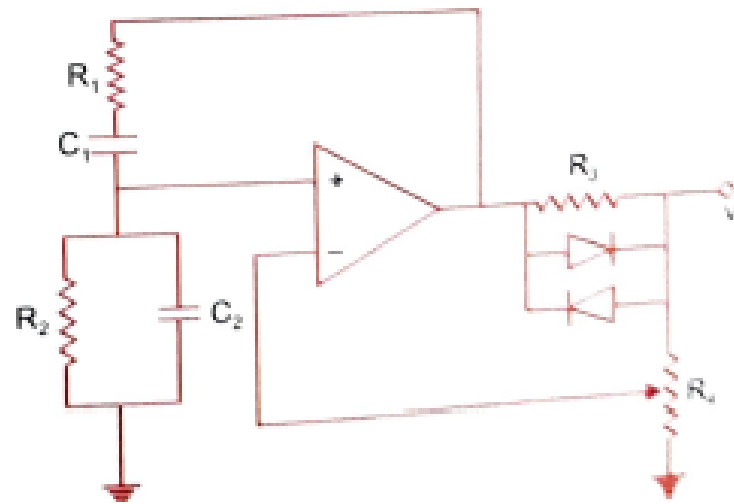

Fig 3 Practical Wien bridge oscillator with adaptive negative feedback
•If the gain  $|A| > 3$ , sometimes oscillations Keep growing and it may clip the output Sine wave. This problem is eliminated by a practical Wien bridge oscillator with adaptive negative feedback as shown in Fig. 3.